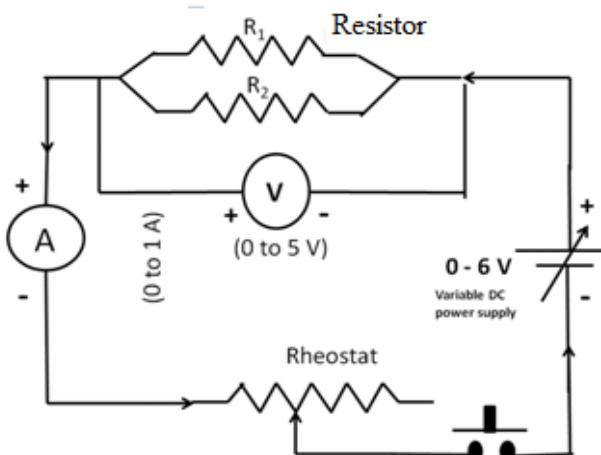

Fig. 02
**Table 3: For wire 1 in series with wire 2 ( Fig. 02)**
S. No.	Voltage Volt(V)	Current Ampere (A)	Resistance $R_s = \frac{V}{I} \Omega$	Mean Resistance $R_s \Omega$